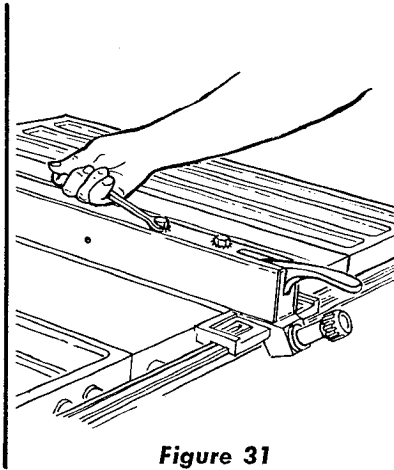

Figure 31
- (7) Check for correct alignment with saw table groove for the full length of the fence. If it is aligned at the front but out of alignment at the rear, loosen the two hex-head screws on top of the channel near the front (figure 31) and tap the channel at the rear with one hand until it is aligned with the table groove. Tighten the two hex-head screws securely and recheck. More than one trial may be required, as tightening the screws may change the setting slightly.
- (8) Check for "automatic correcting" by releasing the lock lever, shifting the fence off square at the rear, then locking it. The fence should square itself automatically and be flush (parallel) with the miter groove each time the handle is locked down.
- (9) Lock the fence with the lock handle, using a 5/32 inch hex-"L" wrench, tighten the fence lock set screw at the rear, hand tight only. (See figure